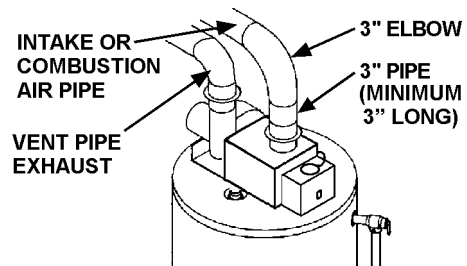

FIGURE 14.
3. Make sure there is no packing material in the discharge of the blower or the intake, see Figure 14.
Figure 14 shows the typical vent connections.